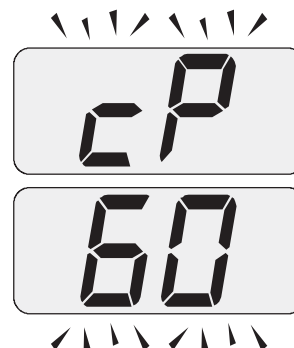

Figure 11.8
- 20 Press key "G" to vary the output in chimney sweep mode: when the display shows the letters **cP** that alternate with the heating water temperature value (e.g. 60), the "chimney sweep function" is at maximum output in heating mode (Figure 11.8);
sweep function" is at maximum output in heating mode (Figure 11.8);